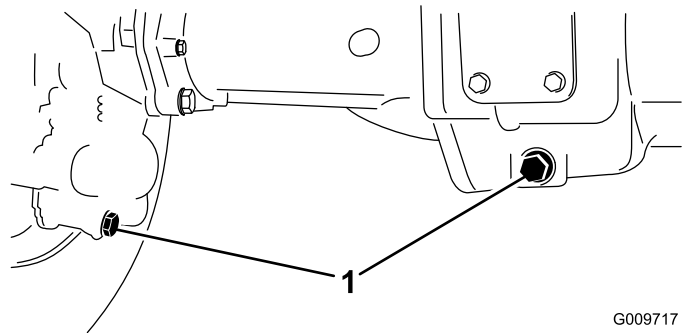

Figure 47
2. Clean the area around the 3 drain plugs, 1 on each end and 1 in the center (Figure 47).